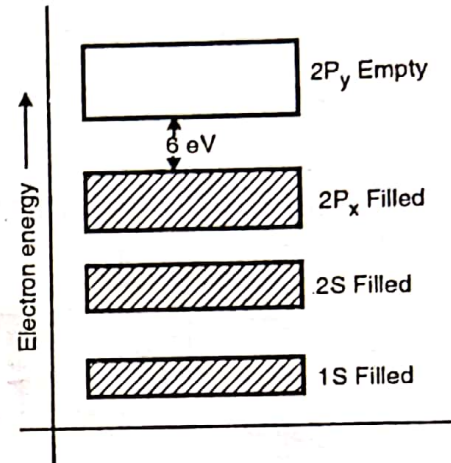

Fig. 2.4.3 : Energy bands in Diamond
- The energy band diagram for Diamond is shown in Fig. 2.4.3.